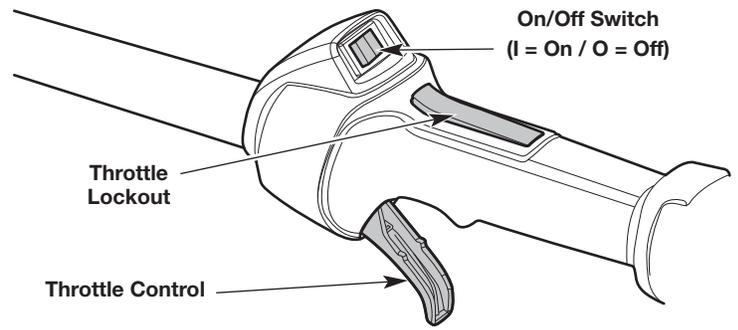

Fig. 18
NOTE: There is no need to turn the unit on. The On/Off switch is in the **On (I)** position at all times (Fig. 18).
6. Press and hold the throttle lockout. Squeeze and hold the throttle control (Fig. 18). Pull the starter rope with a controlled and steady motion **5 times** (Fig. 20).
2. Press and hold the On/Off switch in the **Off (O)** position until the engine comes to a complete stop (Fig. 18).